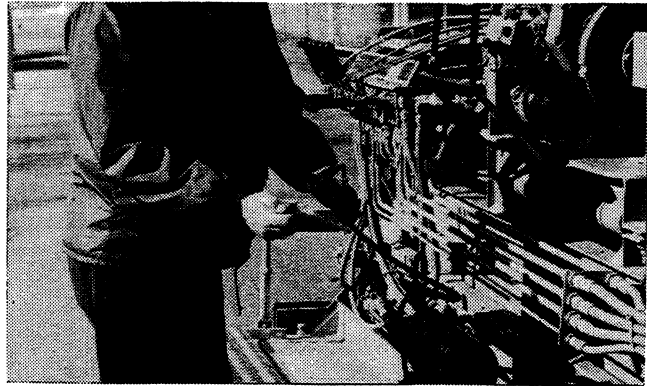

Figure 4-3 – Lighting Ignitor
3. Use a match or cigarette lighter to light ignitor as you open the ignitor valve as shown in Figure 4-3.